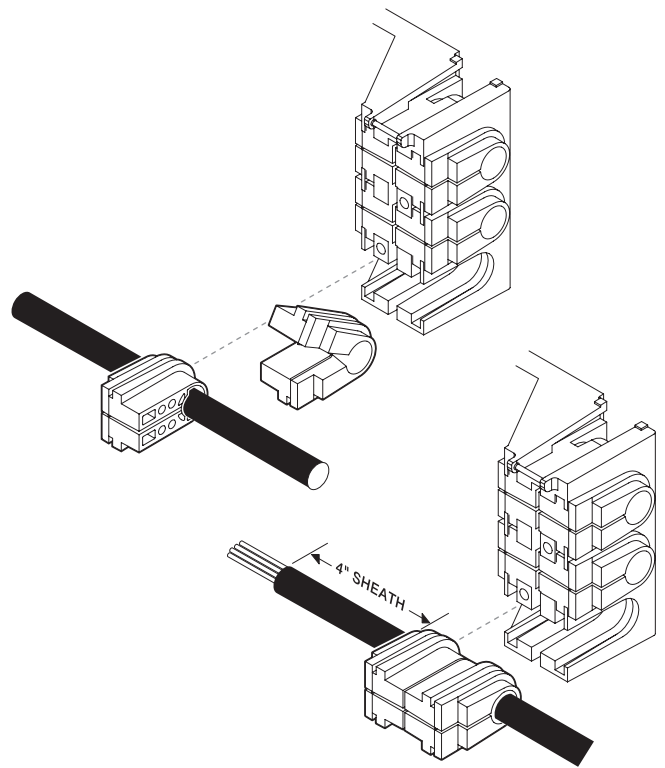

FIGURE 3—Installing Grommets on Cable.
- 6.01 Install cables into appropriate entry/exit port grommet as shown in Figure 3. Split grommets as shown and place around cable, insuring that the cable seats fully into the grommet cone. Two grommets must be used per cable and installed into frame assembly as indicated.